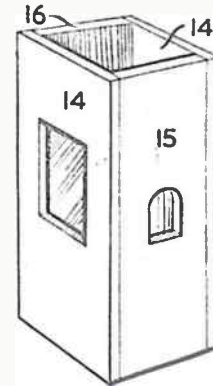
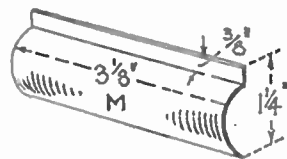

Fig. 5
Fig. 6—Dimensions of the metal front
Now make the pay desk. This is constructed from the two pieces (14) and the pieces (15) and (16). They are glued and pinned together as in Fig. 5, and transparent material can be used behind the window if desired. The celluloid, if used, must be fixed in place before assembly.
To obviate this continued blocking of the main-lines, it is usual to add one more turnout, and to so produce a 'shunting neck' (N, Fig. 6), which should be made two engine-lengths longer than the longest goods train which will be required to enter the goods yard. Crossover (A-B, Fig. 5) is reversed and placed at (C-D, Fig. 6). Point (C, Fig. 5) becomes (E on Fig. 6),
From these simple examples it will be seen how few turnouts are actually needed to produce an interesting and operable station layout, always providing—of course—that the turnouts are properly used, both in respect of their location and their distance apart. For example, the layout of Fig. 6 would be utterly useless if the distance (N) was made too short, though the crossover (A-B) could, if desired be moved to (A1-B1, shown dotted) without upsetting the working arrangements. Obviously, if only a single-track main-line is being used, crossover (A-B) will not be needed, thus effecting a saving of two turnouts. (333)
At the stem, mark the shape of the stern post against the canvas at one side, then cut about 1 in. outside this. Do the same with the other side. Cut darts in the edges to allow for turning over (Fig. 6). Bend one side over and stick to the wood with Bostik 252 or similar adhesive. Put the adhesive on both surfaces, then leave to dry before pressing together. Bend the second side over the first. Cut a piece of light fabric on the bias and stretch this to stick over the joint. The stern may be dealt with in the same way or, as it is straight, the surplus fabric may be gathered up and folded concertina-fashion over the end and nailed to the sternpost.
The ends may be protected and a secure attachment for the painters provided by strips of metal screwed on (Fig. 6). Brass strip about 1/2 in. by 1/2 in. section is suitable. The rope painters are spliced to these and brought back to hooks on the side of the cockpit.